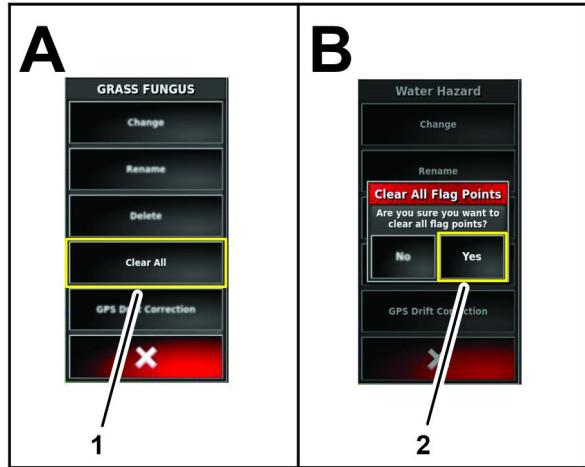

Figure 86
1. In the edit flag menu, press the CLEAR ALL icon (Figure 86).
2. In the clear all flag points dialog box, press the YES icon (Figure 86).